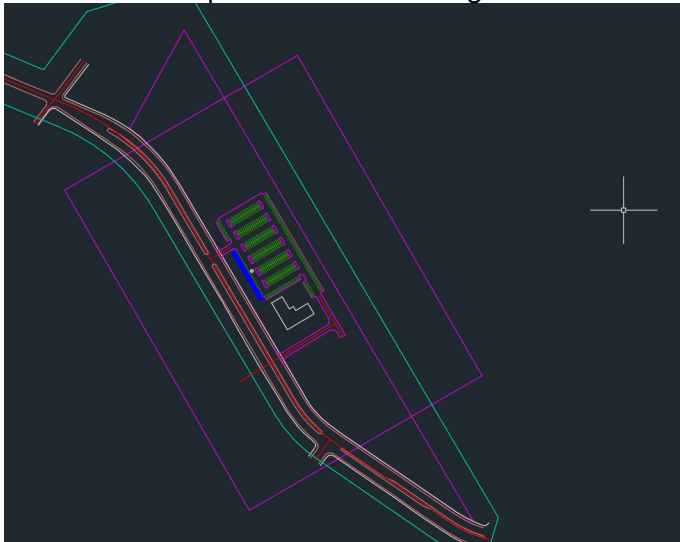

Figure 31: Layout rectangle moved and rotated into place to represent the visible area of a site plan sheet.
5. Use standard Modify commands (Move, Rotate, Copy, etc) to layout your sheets in Model Space as shown in Figure 31.